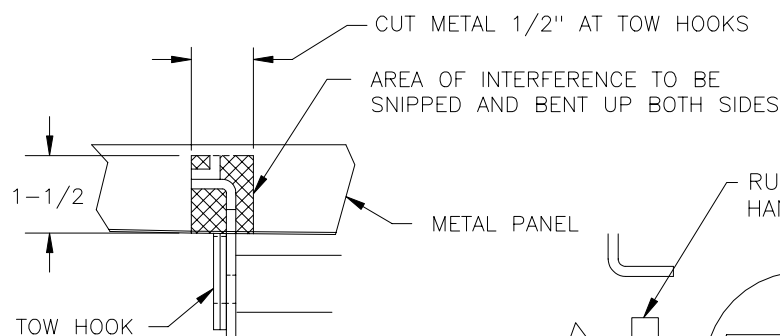

FIGURE 1
2. WITH TIN SNIPS, TRIM SHEET METAL PANEL AT TOW HOOKS AS SHOWN IN FIGURE 1 AND BEND UP TO CLEAR SIDE BRACKETS.